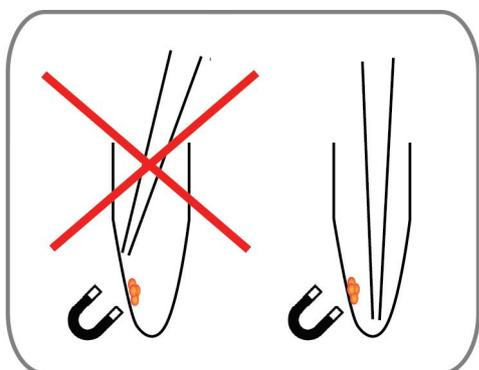

Figure 12. Bead pellet
- F. While keeping the tube on the magnetic rack, carefully remove and discard the solution. **Note! It is important to avoid touching the bead pellet during this step (see Figure 12)**
- J. Carefully remove as much **Wash** solution as possible by pipetting from the bottom of the tube. **Note! It is important to avoid touching the bead pellet and the walls of the tube during this step (see Figure 12)**